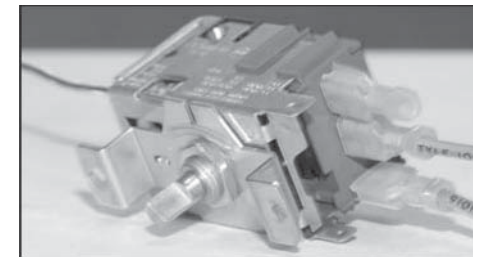

Figure 10. Danfoss temperature control wiring.
- C. Connect other black wire from old control to the single vertical terminal on the new temperature control. (See figure 10).